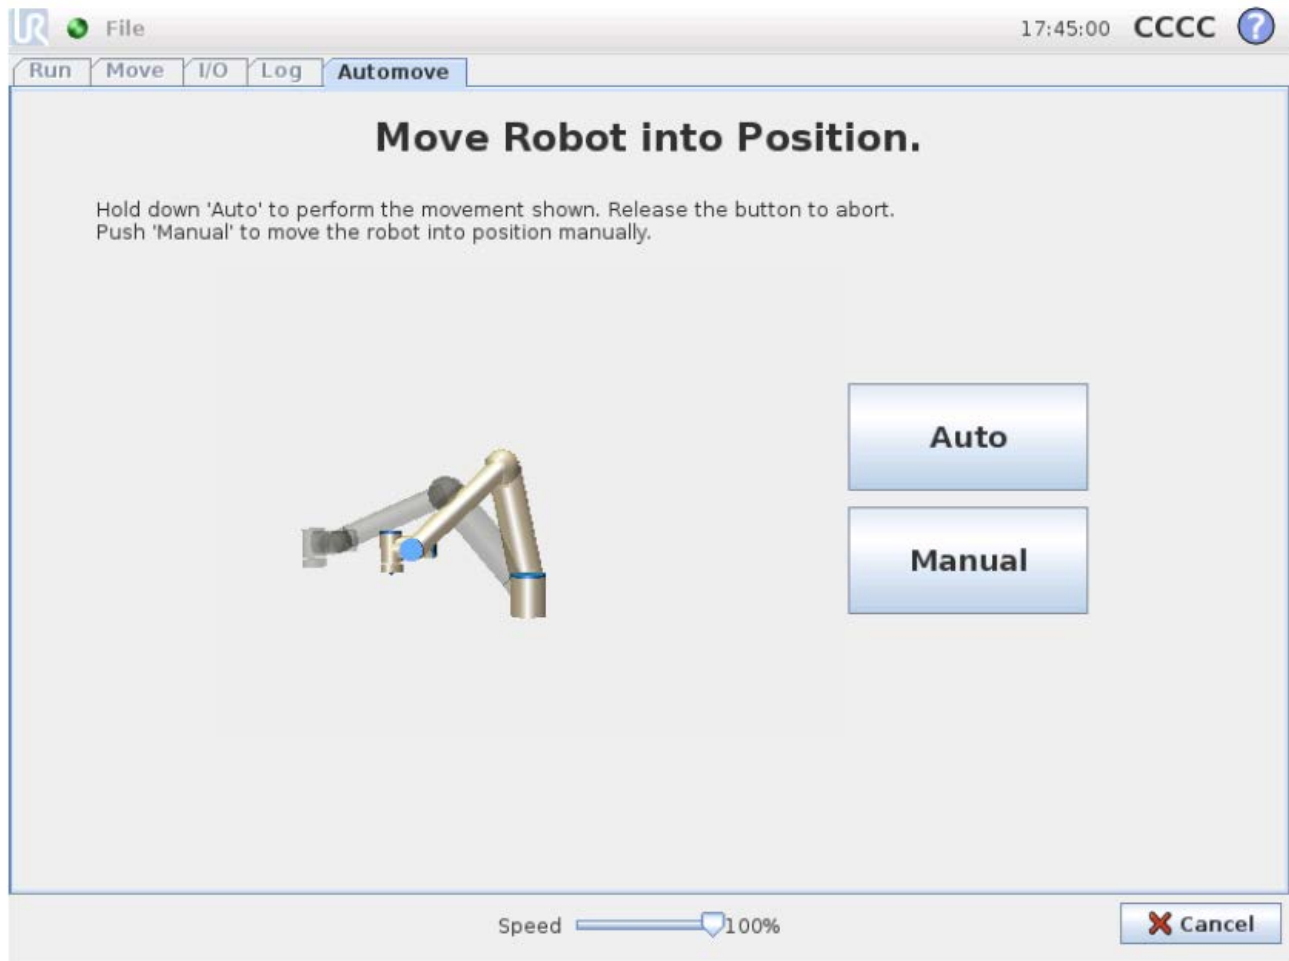

Figure 17 The AutoMove tab
19. We can now run the program. To do this press the run (right pointing arrow) button at the bottom of the screen. The screen in Figure 17 may appear.